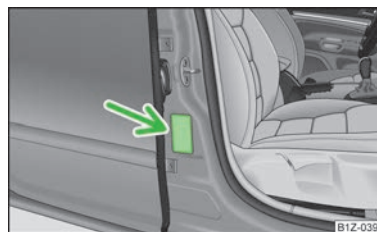

Fig. 121
- This is also clearly stated on the sticker which is located on the B column on the front passenger side » Fig. 121. The sticker is visible upon opening the front passenger door. For some countries, the sticker is also affixed to the sun visor of the front passenger.